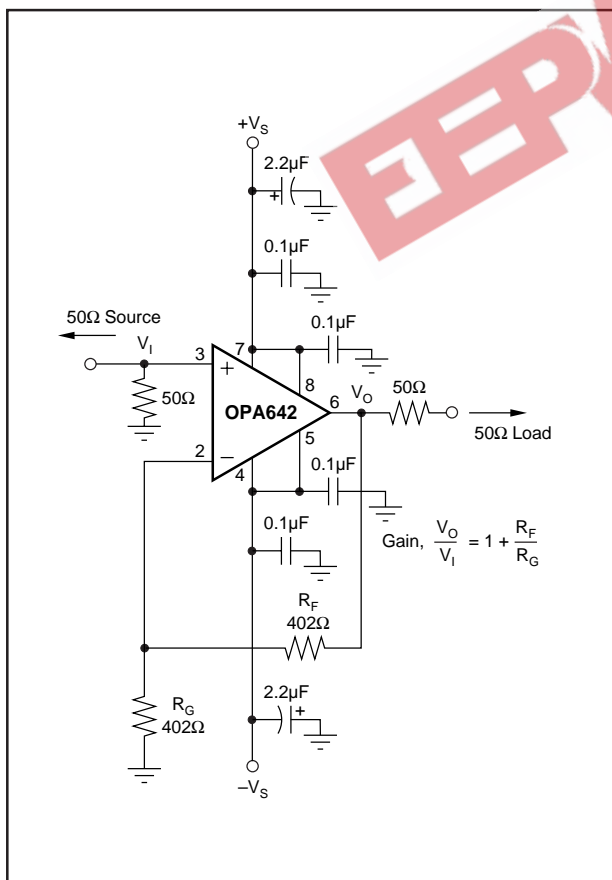
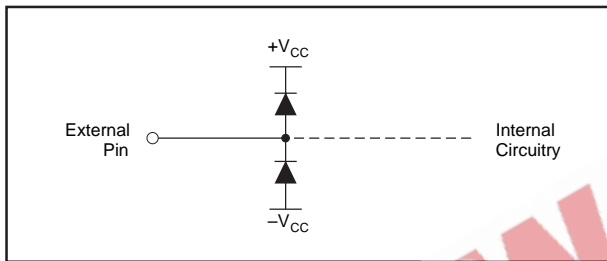

FIGURE 1. Gain of +2, High Frequency Application and Characterization Circuit [P or U Package].
FIGURE 9. Internal ESD Protection.
The OPA642's combination of speed and dynamic range is easily achieved in a wide variety of application circuits, providing that simple principles of good design practice are observed. For example, good power supply decoupling, as shown in Figure 1, is essential to achieve the lowest possible harmonic distortion and smooth frequency response. Proper PC board layout and careful component selection will maximize the performance of the OPA642 in all applications, as discussed in the remaining sections of this data sheet.
Figure 1 shows the gain of +2 configuration used as the basis for most of the Typical Performance Curves. Most of the curves were characterized using signal sources with 50Ω driving impedance, and with measurement equipment presenting 50Ω shunt load impedance. In Figure 1, the 50Ω shunt resistor at the V_I terminal matches the source impedance of the test generator, while the 50Ω series resistor at the V_O terminal provides a matching resistor for the measurement equipment load. Generally, data sheet specifications refer to the voltage swing at the output pin (V_O in Figure 1). The 100Ω load from the series and shunt matching resistances, combined with the 804Ω total feedback network load, presents the OPA642 with an effective load of approximately 90Ω.
To achieve the lowest possible distortion in the 8-pin SO-8 or DIP package, the addition of 0.1μF decoupling capacitors on pins 5 and 8 is required. These are shown in Figure 1. Although pins 5 and 8 are internally connected to pins 4 and 7 respectively (the standard supply pins for 8-pin op amps), the additional capacitors help to decouple the package lead inductances and improve second harmonic suppression at 5MHz by approximately 4dB. The much shorter bond wires and supply leads of the SOT23-5 package give the best distortion performance while requiring only two power supply connections.
is typically set up for a voltage gain of +2, compensating for the 6dB attenuation of the voltage divider formed by the series and shunt 75Ω resistors at either end of the cable. The circuit of Figure 1 applies to this requirement if all references to 50Ω resistors are replaced by 75Ω values. Often, the amplifier gain is further increased to 2.2, which recovers the additional DC loss of a typical long cable run. This change would require the gain resistor (R_G) in Figure 1 to be reduced from 402Ω to 335Ω. In either case, both the gain flatness and the differential gain/phase performance of the OPA642 will provide exceptional results in video distribution applications. Differential Gain and Phase measure the change in overall small-signal gain and phase for the color subcarrier frequency (3.58MHz in NTSC systems) vs changes in the large-signal output level (which represents luminance information in a composite video signal). The OPA642, with the typical 150Ω load of a single matched video cable, shows less than 0.01%/0.01° differential gain/phase errors over the standard luminance range for a positive video (negative sync) signal. Similar performance would be observed for negative video signals. In practice, similar performance is achieved even with two video loads due to the linear high-frequency output impedance of the OPA642.
A good rule of thumb is to target the parallel combination of R_F and R_G (Figure 1) to be less than about 200Ω. The combined impedance $R_F \parallel R_G$ interacts with the inverting input capacitance, placing an additional pole in the feedback network and thus a zero in the forward response. Assuming a 2pF total parasitic on the inverting node, holding $R_F \parallel R_G < 200\Omega$ will keep this pole above 400MHz. By itself, this constraint implies that the feedback resistor R_F can increase to several kΩ at high gains. This is acceptable as long as the pole formed by R_F and any parasitic capacitance appearing in parallel is kept out of the frequency range of interest.
configuration this is sum of $R_F + R_G$, while in the inverting configuration this is just R_F (Figure 1). Increasing output voltage swing increases harmonic distortion directly. A 6dB increase in output swing will generally increase the second harmonic 12dB and the third harmonic 18dB. Increasing the signal gain will also increase the second harmonic distortion. Again a 6dB increase in gain will increase the second and third harmonic by 6dB even with a constant output power and frequency. And finally, the distortion increases as the fundamental frequency increases due to the rolloff in the loop gain with frequency. Conversely, the distortion will improve going to lower frequencies down to the dominant open-loop pole at approximately 3kHz. Starting from the -90dBc second harmonic for 2Vp-p into 500Ω, $G = +2$ distortion at 1MHz (from the Typical Performance Curves), the second harmonic distortion at 20kHz should be approximately $-90\text{dB} - 20\log(1\text{MHz}/20\text{kHz}) = -124\text{dBc}$.
Evaluating these two equations for the OPA642 circuit shown in Figure 1 will give a total output spot noise voltage of $6.7\text{nV}/\sqrt{\text{Hz}}$ and an equivalent input spot noise voltage of $3.35\text{nV}/\sqrt{\text{Hz}}$.
Narrowband communications systems are more commonly concerned with the noise figure for the amplifier. The total input referred voltage noise expression (Eq. 2), may be used to calculate the noise figure. Equation 3 shows this noise figure expression using the E_N of Eq. 2 for the non-inverting configuration where the input terminating resistor R_T has been set to match the source impedance (as shown in Figure 1).
Evaluating Equation 3 for the circuit of Figure 1 gives a Noise Figure = 17.6dB. Input transformer coupling can be used to reduce this noise figure. A broadband pulse transformer can provide both a noiseless voltage gain and a more optimum source impedance to minimize the noise figure. Figure 7 shows an example built from the circuit of Figure 1, in which the transformer turns ratio has been set to the
The OPA642 can provide excellent DC signal accuracy due to its high open-loop gain, high common-mode rejection, high power supply rejection, and low input offset voltage and bias current offset errors. The high grade (B) version of any package type provides less than 1mV input offset voltage. To take full advantage of this low input offset voltage, a careful attention to input bias current cancellation is also required. The high speed input stage for the OPA642 has a relatively high input bias current (25μA typ into the pins) but with a very close match between the two input currents—typically 100nA input offset current. The total output offset voltage may be considerably reduced by matching the source impedances looking out of the two inputs. For example, one way to add bias current cancellation to the circuit of Figure 1 would be to insert a 175Ω series resistor into the non-inverting input from the 50Ω terminating resistor. When the 50Ω source resistor is DC coupled, this will increase the source impedance for the non-inverting input bias current to 200Ω. Since this is now equal to the impedance looking out of the inverting input ($R_F \parallel R_G$), the circuit will cancel the gains for the bias currents to the output leaving only the offset current times the feedback resistor as a residual DC error term at the output. Using a 402Ω feedback resistor, this output error will now be less than $3\mu\text{A} \cdot 402\Omega = 1.2\text{mV}$.
As a worst case example, compute the maximum T_J using an OPA642N (SOT23-5 package) in the circuit of Figure 1 operating at the maximum specified ambient temperature of $+85^\circ\text{C}$. $P_D = 10\text{V} \cdot 26\text{mA} + 5^2 / (4 \cdot (100\Omega \parallel 804\Omega)) = 330\text{mW}$. Maximum $T_J = +85^\circ\text{C} + 0.33\text{W} \cdot 150^\circ\text{C/W} = 135^\circ\text{C}$.
The OPA642 is built using a very high speed complementary bipolar process. The internal junction breakdown voltages are relatively low due to these very small geometry devices. These breakdowns are reflected in the Absolute Maximum Rating table. All device pins are protected with internal ESD protection diodes to the power supplies as shown in Figure 9.
High input overdrive signals can also cause significant differential voltage between the + and - inputs. Where this voltage can exceed the maximum rated voltage of $\pm 1.2V$, external Schottky protection diodes should be added across the two inputs. Again, the capacitance added by these diodes can degrade the noise and AC performance and should be used only where necessary. Figure 9 shows a fully featured input protection circuit for the OPA642. This is the circuit of Figure 1 with additional limiting resistors into the inputs and Schottky clamp diodes across the inputs. These resistor values have been selected to limit the degradation in noise and frequency response, achieve DC bias current cancellation, and limit the current that will flow under overdrive conditions.